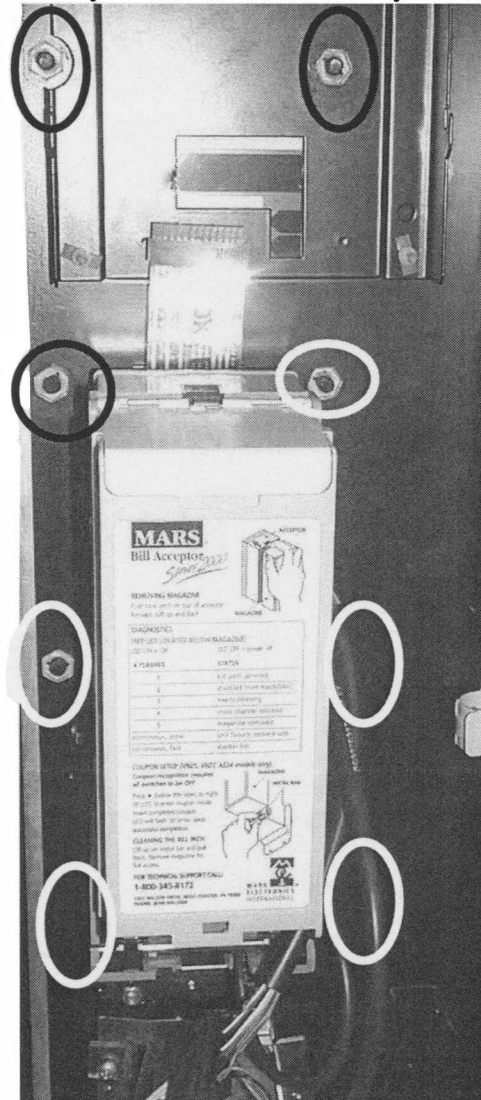

Figure 3.
4. Locate the (8) nuts on the back of the front door. Refer to Figure 3 for these locations. These are used to hold the front panel onto the door. With the nut driver, remove these nuts and remove the front panel from the door. Please note once the screws are removed the front panel is no longer attached to the front door. Use caution when removing these screws so that the front panel does not fall forward. Also, use caution when removing the front panel because the keypad may not be securely fixed to it and this may also fall.